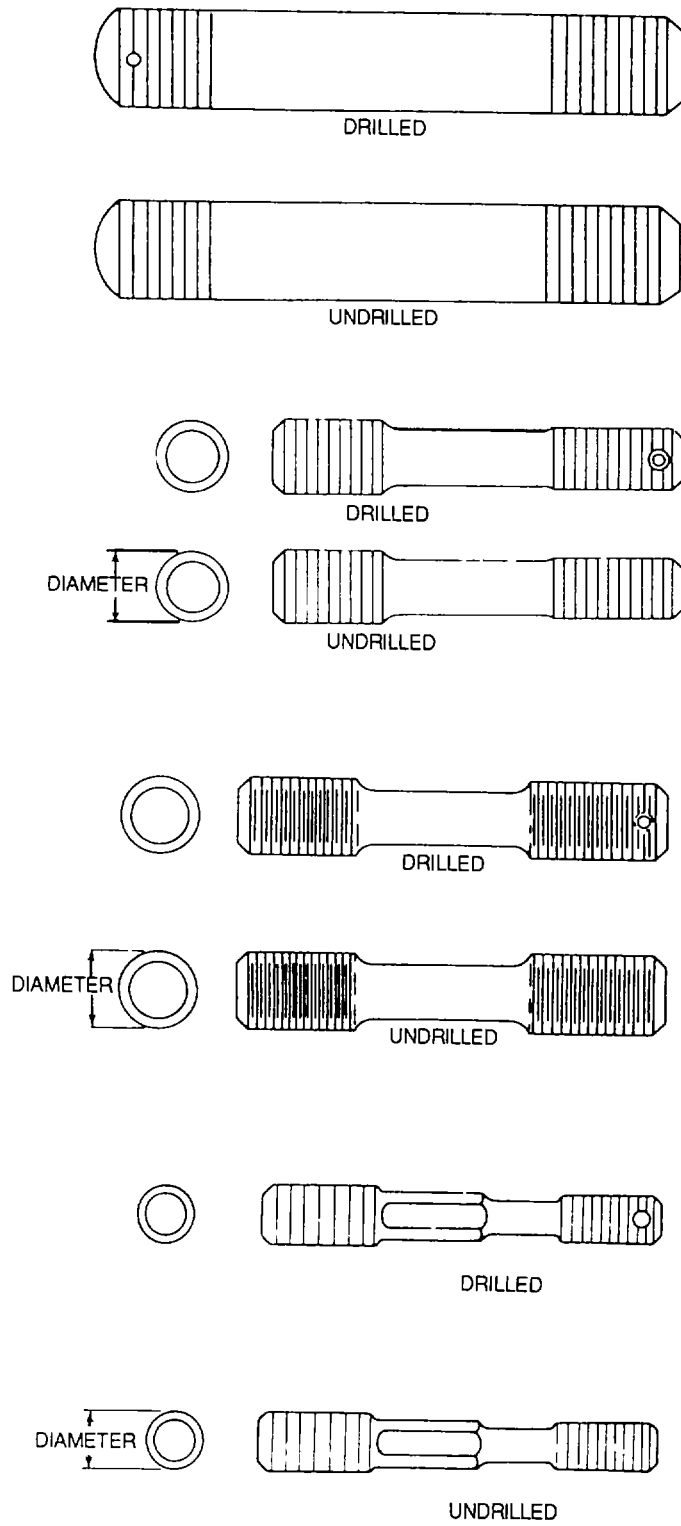

Figure 2-63. Stud Types
**2-10. Studs.** The type studs used in aircraft structure are coarse thread studs, fine thread studs, stepped studs, necked stepped studs, wrench pad necked stepped studs, lockring studs, and self-tapping lockring studs. Studs are available either drilled or undrilled on the nut end. Figure 2-63 shows some stud types. The type studs used in aircraft structures/components are coarse thread studs.